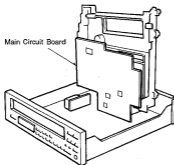

Fig.11
12. Now the Main Circuit Board is ready for checking. When it is necessary to check the back side (foil side) of the main Circuit Board, remove 4 PCB Supports and place it upright as shown in Fig. 11.